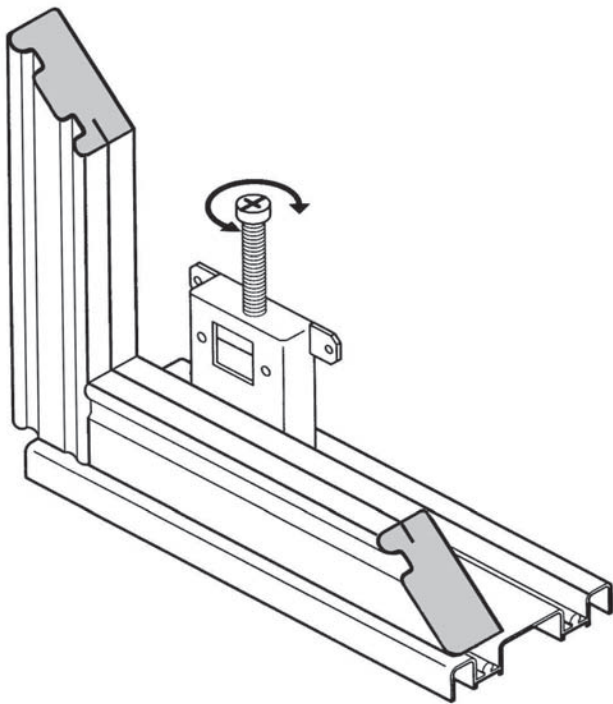

Figure 4
- A. Slide the front Panel to the side closest to the room's entrance door (This is how the Wardrobe Doors will be in position to look their best). Look at the space between the door edge and the wall. You want the door edge and the wall to be flush. If you see space at the top or bottom edge of the Panel, turn the adjusting screw on top of the Steel Wheel Assembly (#13) on the lower back of the Panel nearest the wall. Turn the screw left or right until the Panel aligns flush with the wall (See Figure 4).